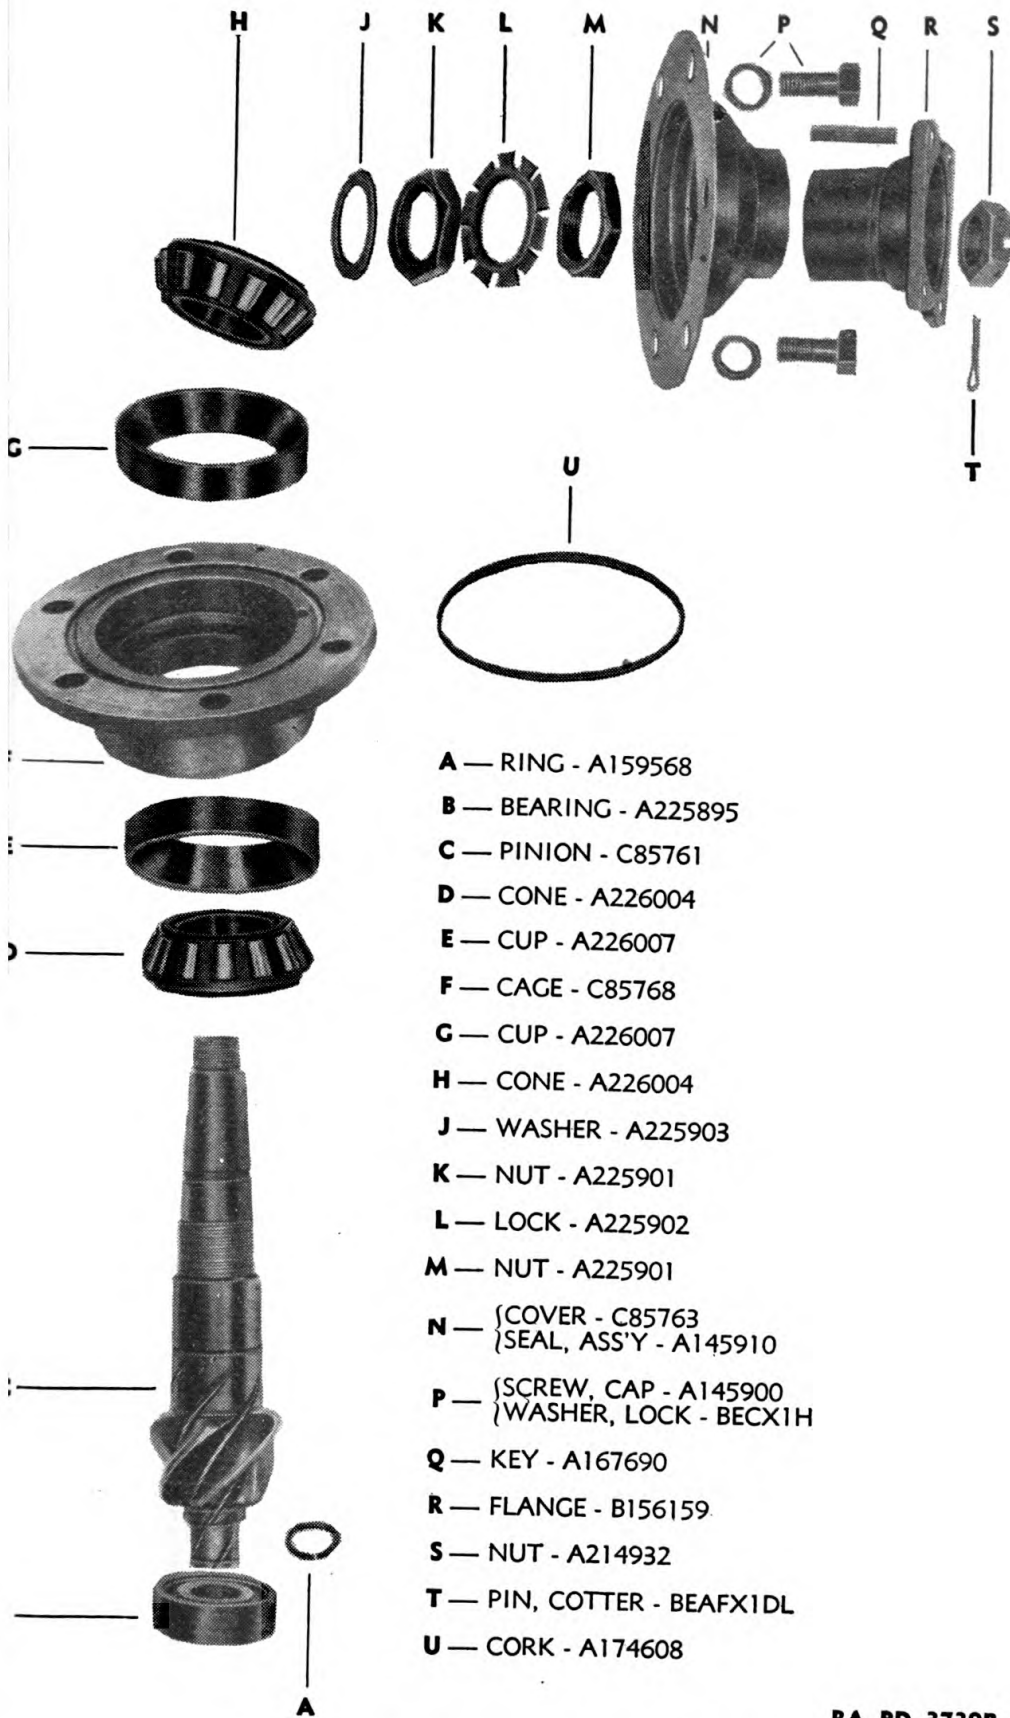

FIGURE 39.—Front axle drive pinion, exploded.
(7) Bolt housing halves— $\frac{5}{8}$ -inch socket wrench,  $\frac{5}{8}$ -inch open end wrench. Use a new gasket between housing halves. Bring halves together, insert bolts, and tighten nuts in rotation.
(8) Refill housing with lubricant. Replace magnetic drain plug, remove filler plug, and fill with  $3\frac{1}{2}$  quarts of proper lubricant. Replace filler plug.
*b. Drive pinion* (fig. 39).—Tools: press, wood blocks, pipe collar, steel plate, screw driver,  $1\frac{1}{4}$ -inch open end wrench,  $1\frac{1}{2}$ -inch socket wrench, pliers,  $\frac{13}{16}$ -inch socket wrench,  $\frac{9}{16}$ -inch open end wrench,  $\frac{5}{8}$ -inch box wrench.